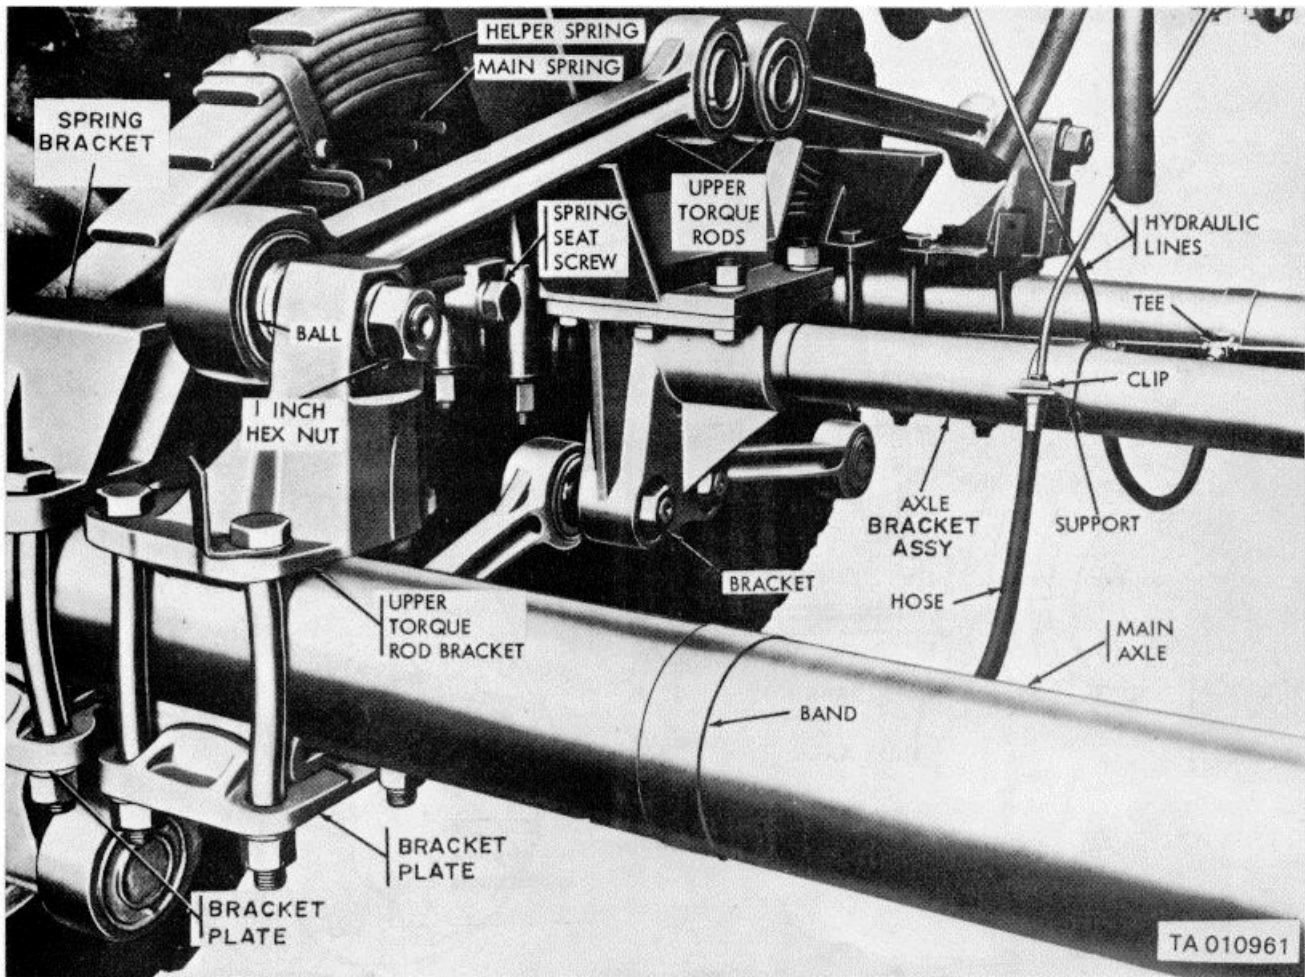

Figure 4-38. Tandem suspension system-underside view
(1) Support front of vehicle by extending landing gear support legs. Using the leveling jacks, raise rear of vehicle enough to relieve tires of ground contact. Support vehicle with support stands.
(2) Remove wheel and tire assemblies (paragraph 3-18). Remove wheel chock from stowage support.
(3) Place jack under axle and bracket assembly (fig. 4-38) and raise chassis just far enough to take weight of springs off front and rear axle spring brackets.
(6) Loosen, but do not remove, two cap screws (fig. 4-38) which clamp lower spring bracket to main spring assembly.
#### 4-55. Torque Rods (fig. 4-38)
(1) Raise and support vehicle (para 4-55a(1)).
(2) Remove left wheel and tire assemblies (paragraph 3-18). Remove wheel chock from stowage support.
(3) Remove left spring assemblies (steps (3) through (10), paragraph 4-53b).
(4) Raise front and rear axles to relieve weight of each axle from upper torque rods. Provide a secure means of support to hold this position.
(5) Remove four nuts and lock washers securing two upper torque rods to chassis suspension bracket and upper torque rod brackets on front and rear main axles (fig. 4-38).
(6) Loose torque rod ball ends (para 4-55a(3)).
(7) Remove eight nuts, lock washers and bolts securing upper torque rod brackets to front and rear axles.
(8) Remove torque rod from frame suspension bracket by prying rod end in and away from bracket.
(9) Remove upper torque rod brackets and torque rods by lifting up and away from locating pins on axles.
(10) Remove torque rods from brackets by prying rod ends away from brackets.